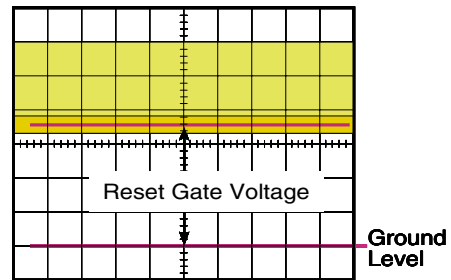

Fig 4-1
- Adjust R302 so that the bottom level of the Rch Reset Gate Voltage becomes indicated voltage  $\pm$  0.03 V on the Drive Board as shown in Fig. 4-1 and Table 4-1.